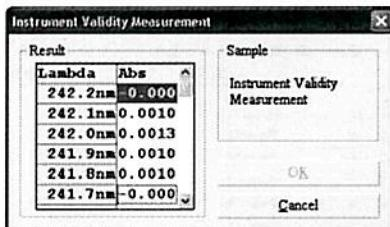
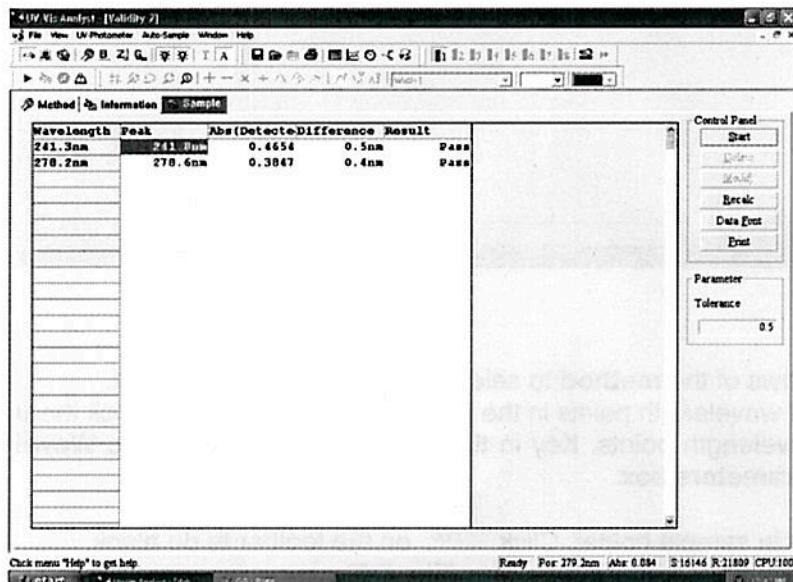

Fig. 5-7
Fig. 5-8
6. Place the **Wavelength Standard Filter** in sample holder, click to run a new measurement, appears following form (Fig. 5-7). Click OK to list the data in the table (Fig. 5-8).